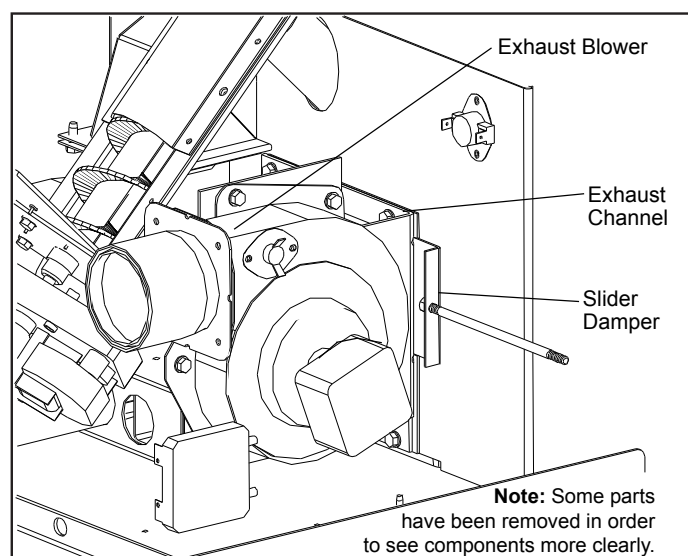

Figure 40: Slider / Damper
The slider damper is used to regulate the airflow through the pellet stove and is located behind the left cab side (refer to Figure 40). The door must be open for the cab side to be removed on all models. On freestanding model loosen the two T-20 torx screws, one above and one below hinge, swing open left panel to access. On insert model remove the two (2) T-20 torx screws on the front, one above and one below hinge, and the one T-20 at the top of the cab side under the top front.